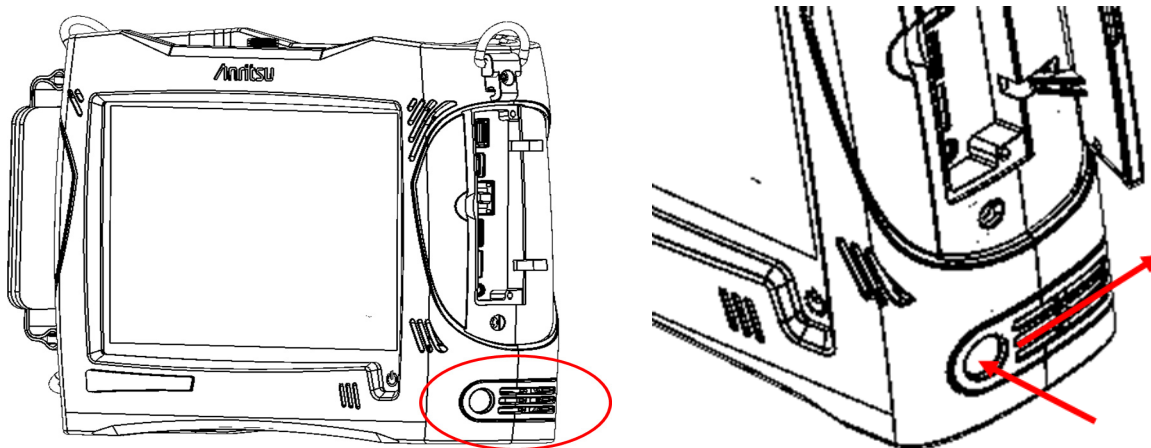

**Figure 4-1.** Battery Access Door Location and Removal
2. Press the circular area while simultaneously sliding towards the rear of the MS2090A to remove as shown in Figure 4-1.